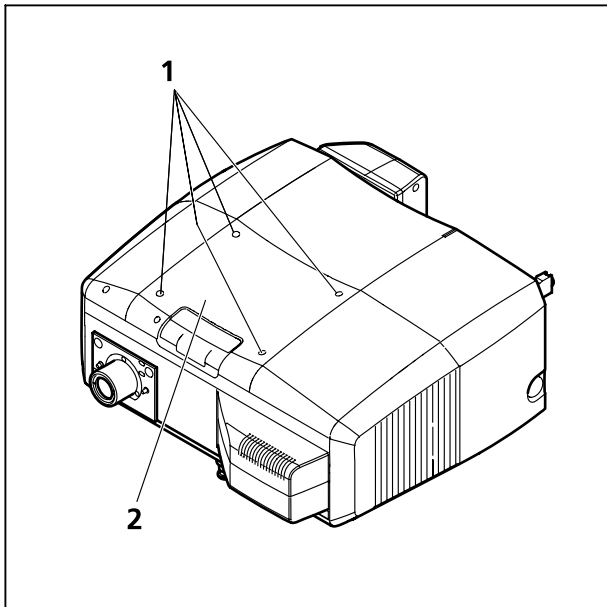

Fig. 7-3 Removing the cover
- Loosen the four fastening screws (Fig. 7-3/1).
- Remove the cover (Fig. 7-3/2) of the scanning module.